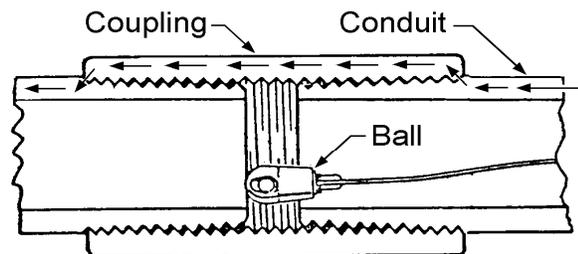

Figure 2.
- 3.3 *Threads.* Conduit gaps inside of couplings are necessary in order to avoid butting. The taper of the threads is designed to make the last three threads the electrical connection. See Figure 2. Properly threaded conduit should be easily joined by hand, except for final tightening for the purpose of seal and electrical connection, which should be obtained by the application of approximately an additional half turn.
- 5.5 *Pulling of Wires and Cables.* Standard methods are employed for pulling, except a ball should be attached to avoid gouging the aluminum. See Figure 2.